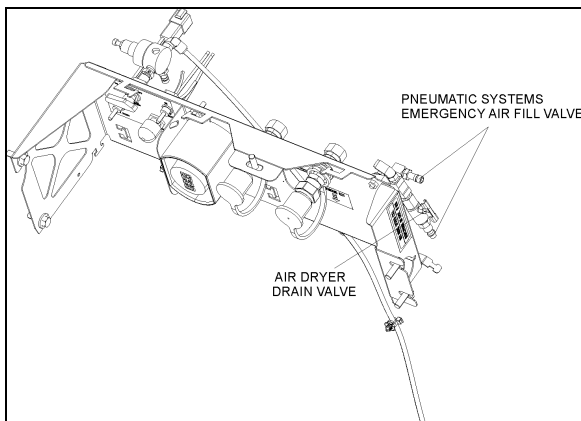

FIGURE 2: REAR VALVE LOCATION 12219
The rear valve is located in the engine compartment and is accessible from engine compartment R.H. side door (Fig 2.).
1. Release air dryer pressure by opening the air dryer drain valve (Figure 2).